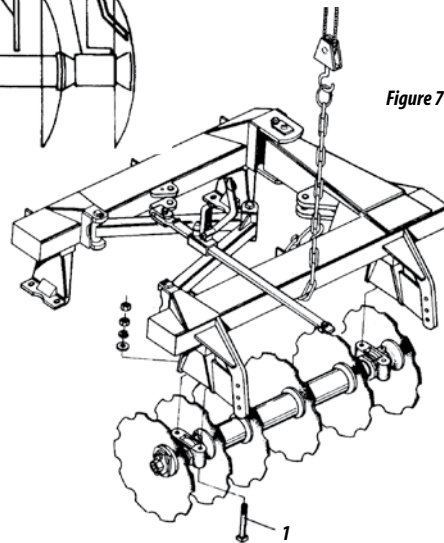

Figure 7
- 04 - Lift a frame (front or rear), assemble the disc set online, observe the their arrangement in Figure 3. Make it coincide with the drilling of shoes with those of bearing, and make the assembly through screws Item 1 Figure 7, noting that the bracket support (shoe) should be facing the concavity of the disc as shown in Figure 3.